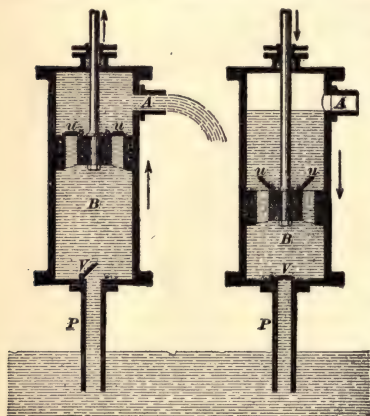
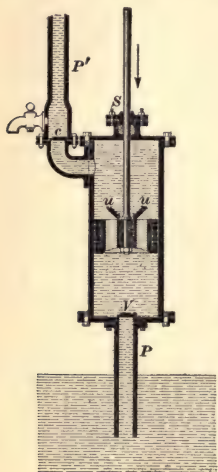

FIG. 25.
FIG. 26.
70. The Suction Pump.—A section of an ordinary suction pump is shown in diagrammatic form in Fig. 25.
72. The Lifting Pump.—In some cases it is desired to raise water higher than it can be forced by the pressure of the atmosphere into the chamber of a simple suction pump, such as is shown in Fig. 25. To accomplish this the pump chamber with its bucket and valves are set at a distance above the supply not exceeding that to which the air will successfully force the water. A closed pipe P' , Fig. 26,
While it is customary to consider lifting pumps and suction pumps as two different types of pumps, there is in reality no difference in their operation, as a careful study of Figs. 25 and 26 will show. The only difference is that the water is discharged by a suction pump *at* the level of the